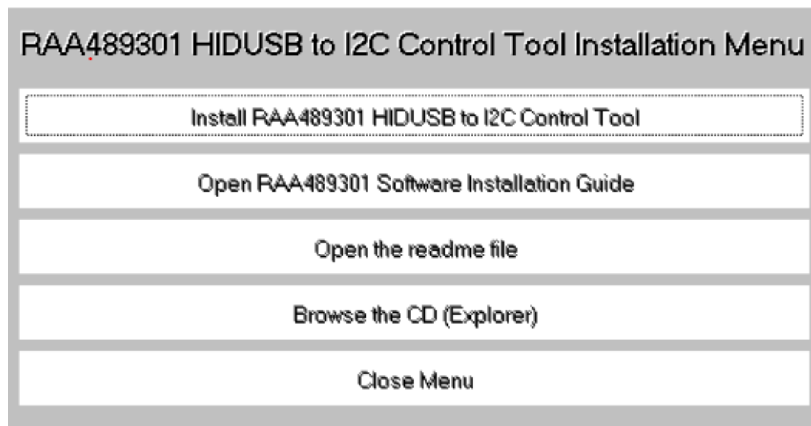

Figure 2. Installation Menu
2. Run **AutoRun.exe**. An installation menu appears (see Figure 2).